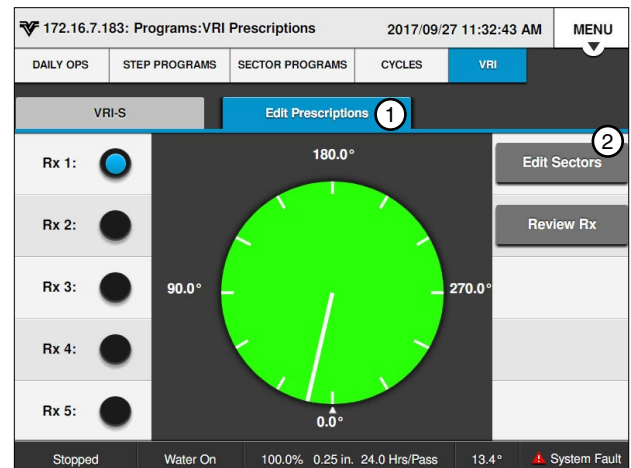

Figure 159-2 1. Edit Prescriptions
4. Push the **Edit Sectors** button to display the Edit Sectors screen. Refer to Figure 159-2.